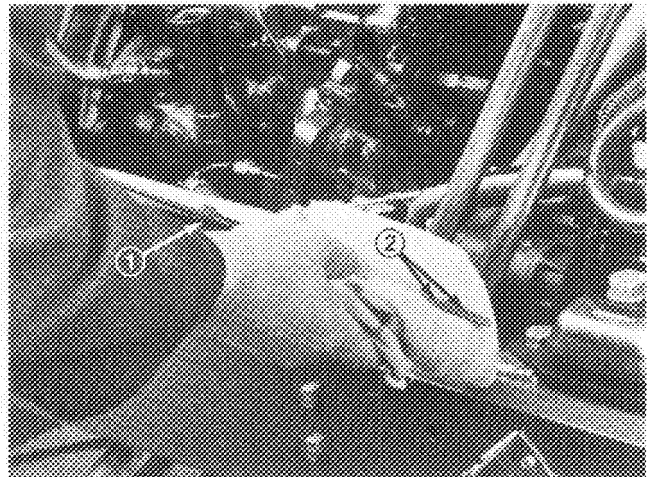
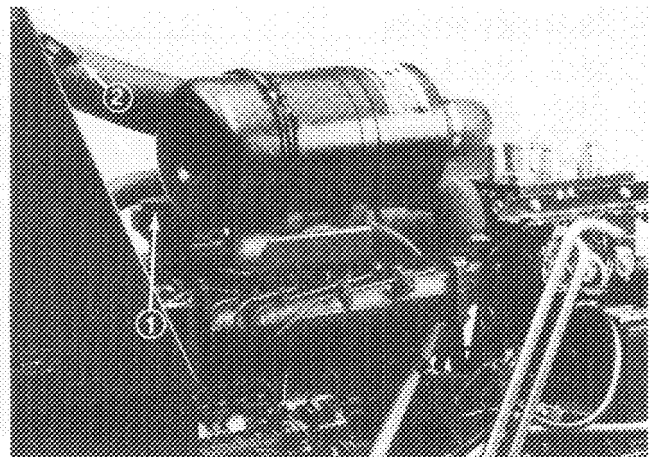

Figure 3
Figure 4
3. Remove dipstick, wipe with a clean rag (Fig. 3) and insert in tube until it is fully seated. Remove from tube and check oil level. If oil level is low, remove filler cap
(Fig. 4). Add oil until level is to top notch on dipstick (Fig. 3). **DO NOT OVERFILL.**
2. Remove radiator cap (Fig.4). Level of coolant must be above the radiator core and about 1 in. (25 mm) below bottom of filler neck.